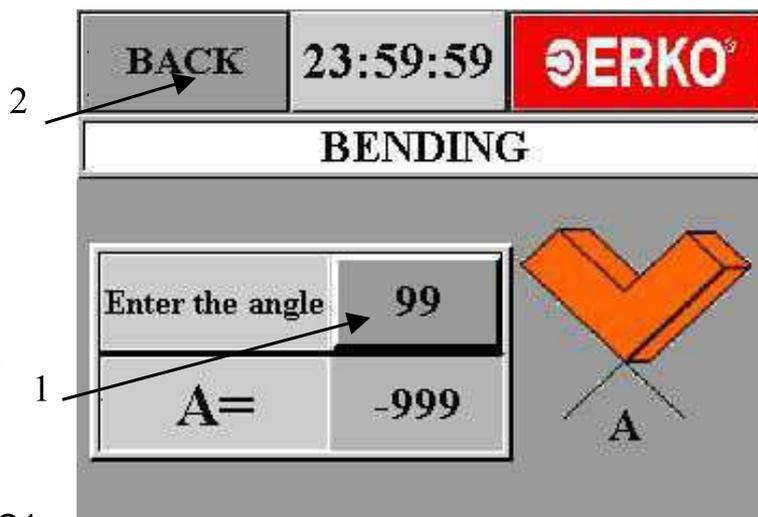

Fig. 6.
6. By touching control panel enter the desired bending angle [1] and confirm it (Fig. 6)
9. In order to change the machine mode, go to main menu by pressing BACK on the control panel [2] (Fig.6). Dismantle the equipment.